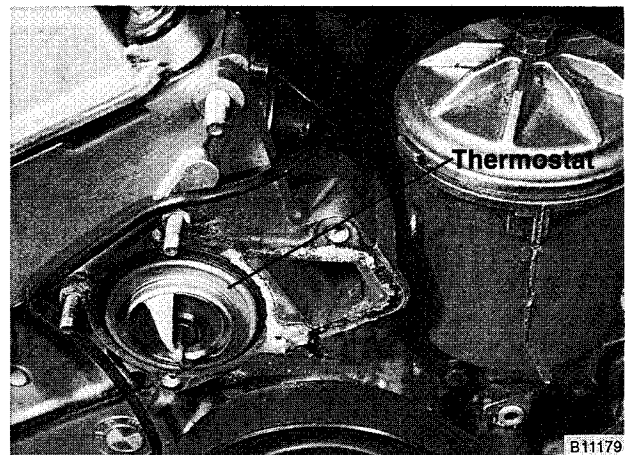

Fig. 15. Thermostat housing shown removed (6-cylinder engine).
4. Remove thermostat housing from front of engine. See Fig. 15.